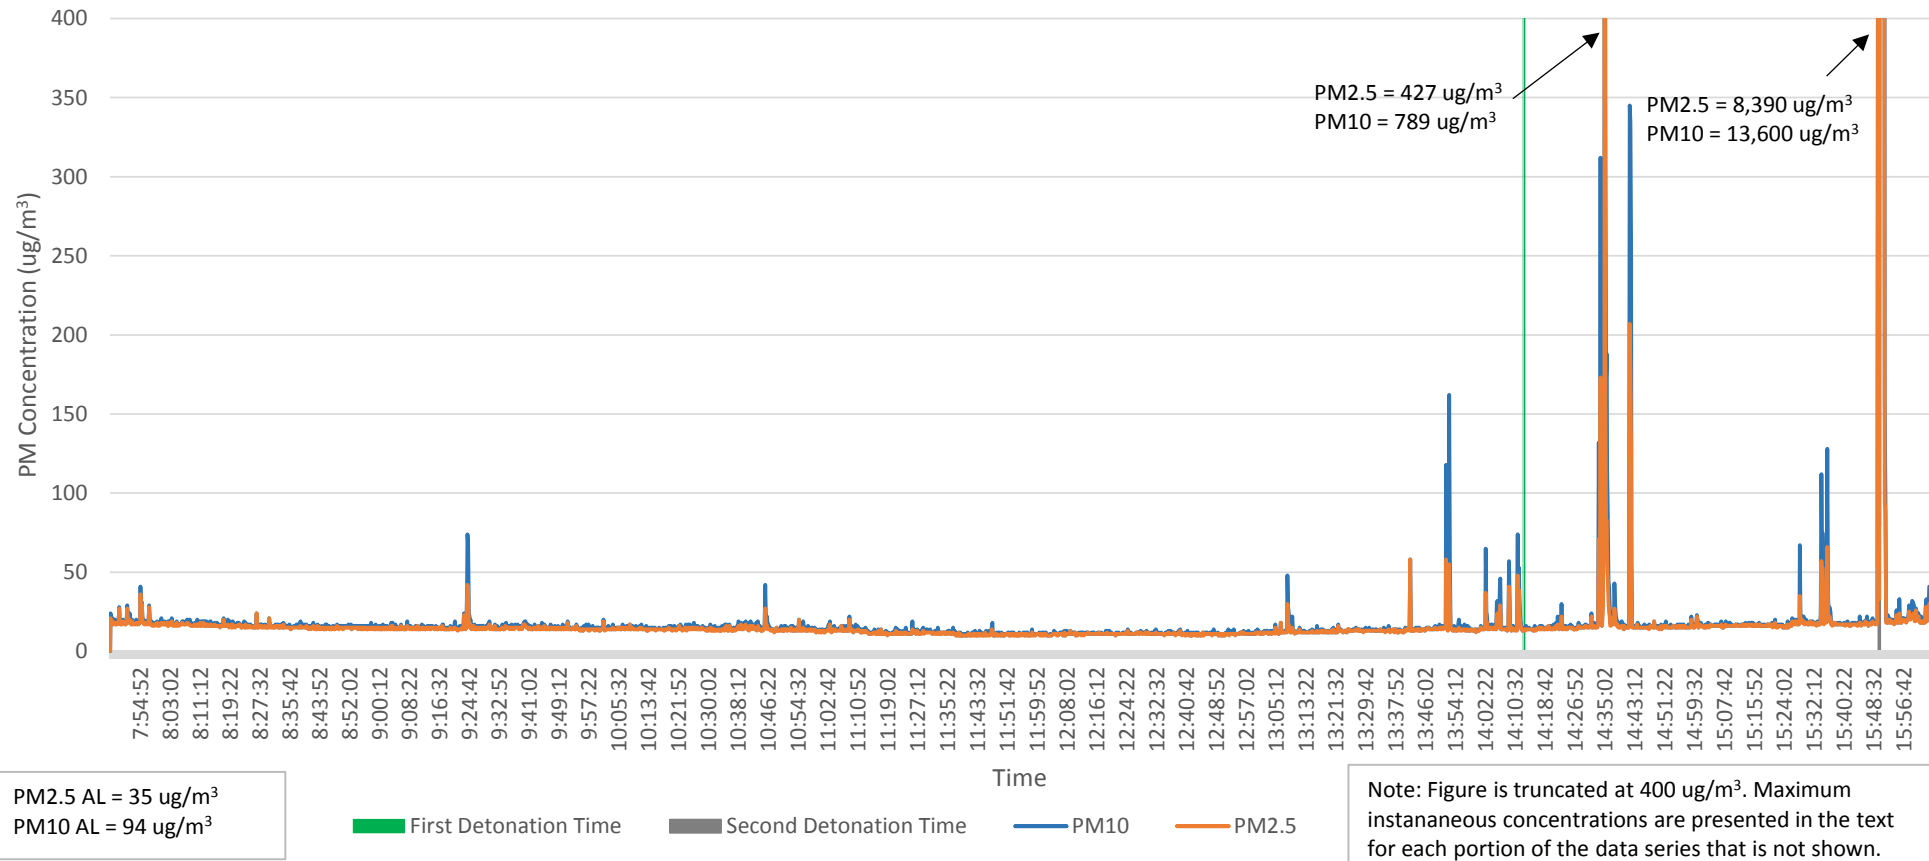

Figure 3-5. PM2.5 and PM10 on 8/9/17 at the Fence Line Boundary Monitoring Point - Waterford
- Figure 3-5. PM2.5 and PM10 on 8/9/17 at the Fence Line Boundary Monitoring Point - Waterford